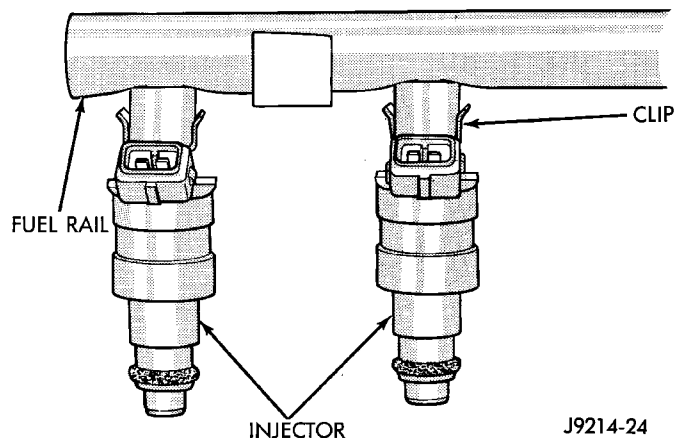
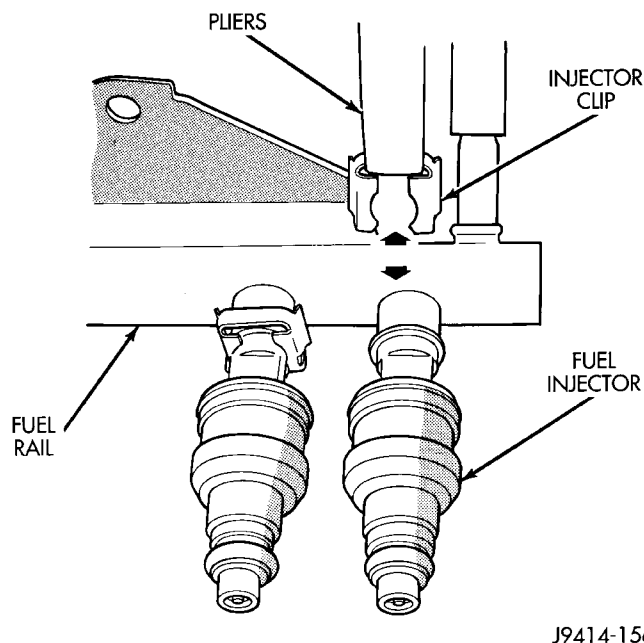

Fig. 33 Fuel Injector Mounting—Typical
Fig. 34 Injector Retaining Clips—Typical Injector
(9) Gently rock and pull the **left** fuel rail until the fuel injectors just start to clear the intake manifold. Gently rock and pull the **right** fuel rail until the fuel injectors just start to clear the intake manifold. Repeat this procedure (left/right) until all fuel injectors have cleared the intake manifold.
(10) Remove fuel rail (with injectors attached) from engine.
(11) Remove the clip(s) retaining the injector(s) to fuel rail (Fig. 33) or (Fig. 34).
(3) Remove the clip(s) retaining the injector(s) to fuel rail (Fig. 33) or (Fig. 34).
(4) Remove injector(s) from fuel rail.